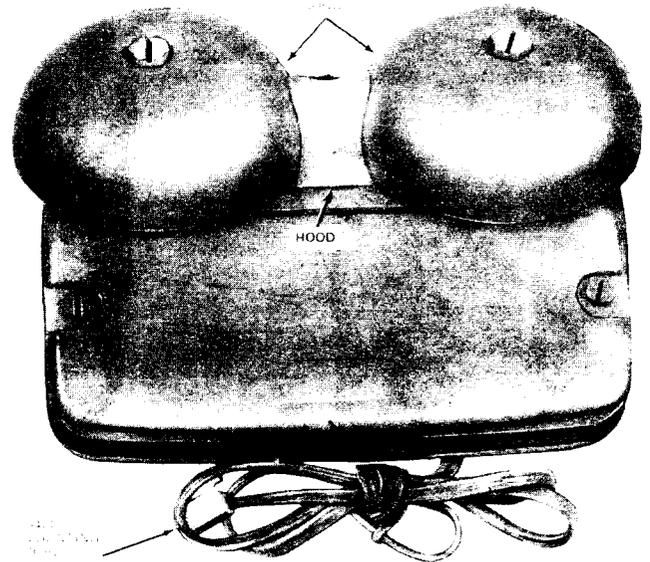

Fig. 1 — L1AMP Ringer
2.01 The L1A (MD), L1AM (MD), and L1AMP ringer is a single-coil, high impedance, loud ringing signal for indoor or outdoor use. The ringer has a 2-position bias spring and two concentric gongs. The volume can be adjusted by rotating the gongs (Fig. 1).
- (f) ♦ To remove the hood (Fig. 1), perform the following:
- (1) If the hood has a screw, remove it and swing the top of the hood outward.
- (2) If the hood has no screw, press down on top of hood and simultaneously swing outward.♦